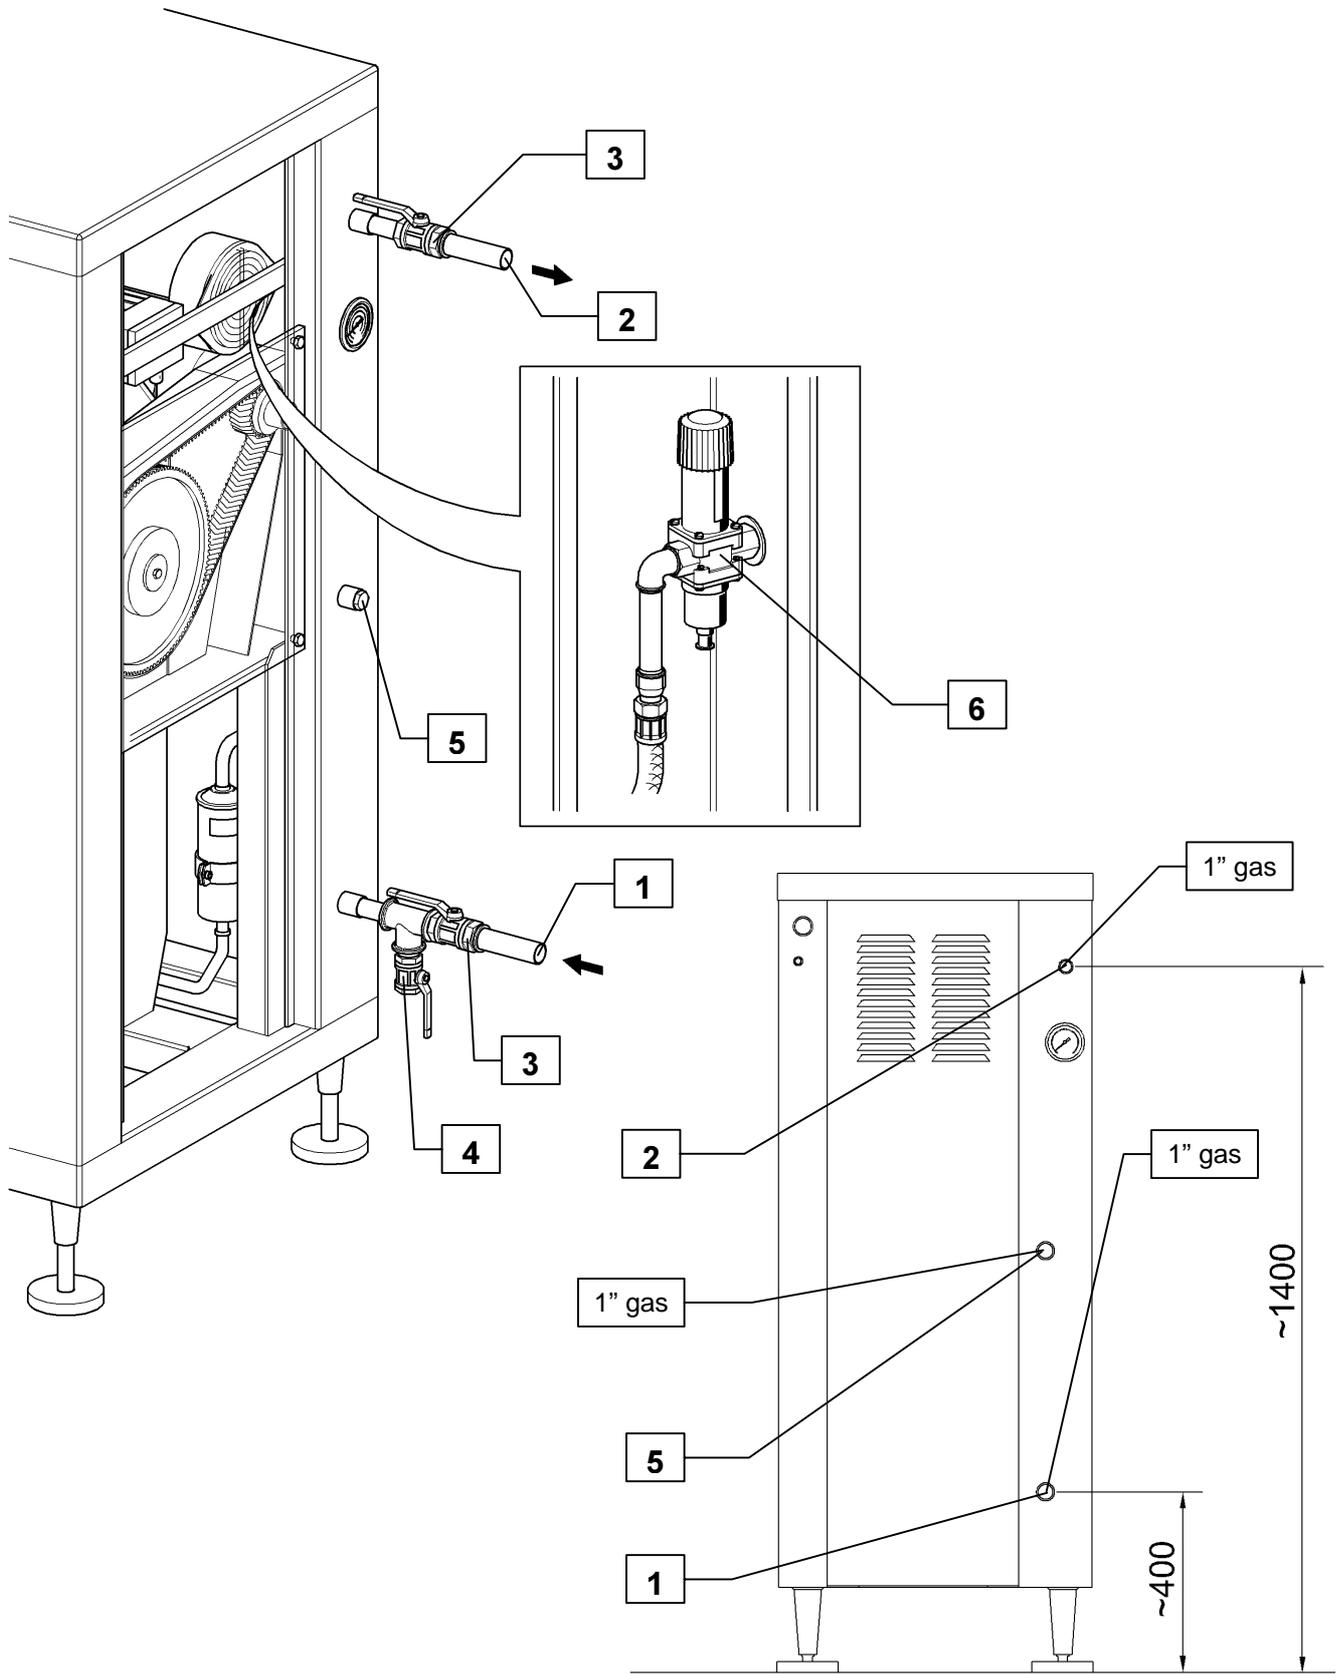

Fig. 4-3 – Cooling water connection
Connect the mains water sending to the attachment positioned on the lower part of the machine (Fig. 4-3 pos. 1) and the return to that placed on the upper part (Fig. 4-3 pos. 2).
During the connecting procedure, prearrange the installation of proper intercepting valves (Fig. 4-3 pos. 3) for the following water isolation of the machine during maintenance procedures.
It is also advisable to prearrange a second valve (Fig. 4-3 pos. 4) next to the lower connection in order to allow a possible drainage of the water container inside the freezer.
Between the two main fittings there is a third one (Fig. 4-3 pos. 5) to be used during the washing operations of the cooling circuit.
The machine is equipped with a pressure adjusting valve (Fig. 4-3 pos. 6) that adjusts the flow-rate of the water to the cooling circuit in an inversely proportional ratio to its temperature.